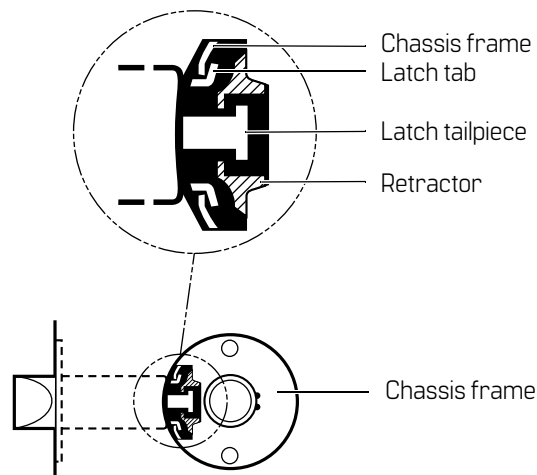

Figure 3.15 Engaging the retractor in the latch
2. Align the chassis with the latch. Make sure that the latch tabs engage the chassis frame and the latch tailpiece engages the retractor, as shown in Figure 3.15.